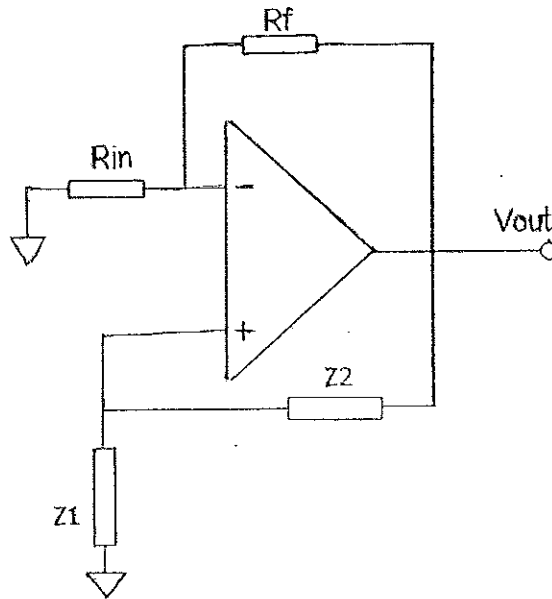

Figure 5
- b) Consider a Wein bridge oscillator shown in Figure 5 with  $Z_1$  is a series resistor capacitor (RC) combination ( $Z_1 = R_1 - jX_{C1}$ ) and  $Z_2$  as a parallel RC combination ( $Z_2 = R_2 \parallel C_2$ ).